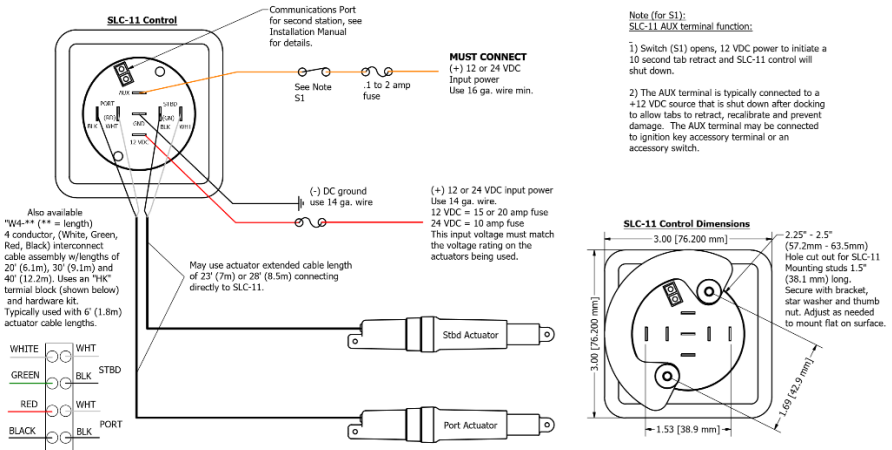

Fig. 5
2. If the W4-** cable is used to connect the switch to actuators, route the cut cable end from the control switch to the transom terminal strip. The push-on terminal end of the 20' (6.1m), 4-conductor, 14 AWG (2.08mm sq.) cable connects to the control switch (KA Kits), or route the longer 23' (7m) actuator cable directly to the control switch (XKA Kits). Connect cable to switch as shown in Fig. 5.
3. Connect a fused 12vdc or 24vdc power source as shown in Fig. 5. **Power source voltage must match the actuator voltage.** The **AUX** terminal on the control **MUST** be connected to a switched +12 or 24vdc source such as an ignition key switch or auxiliary panel switch. When the key switch is turned off, the tabs automatically retract.